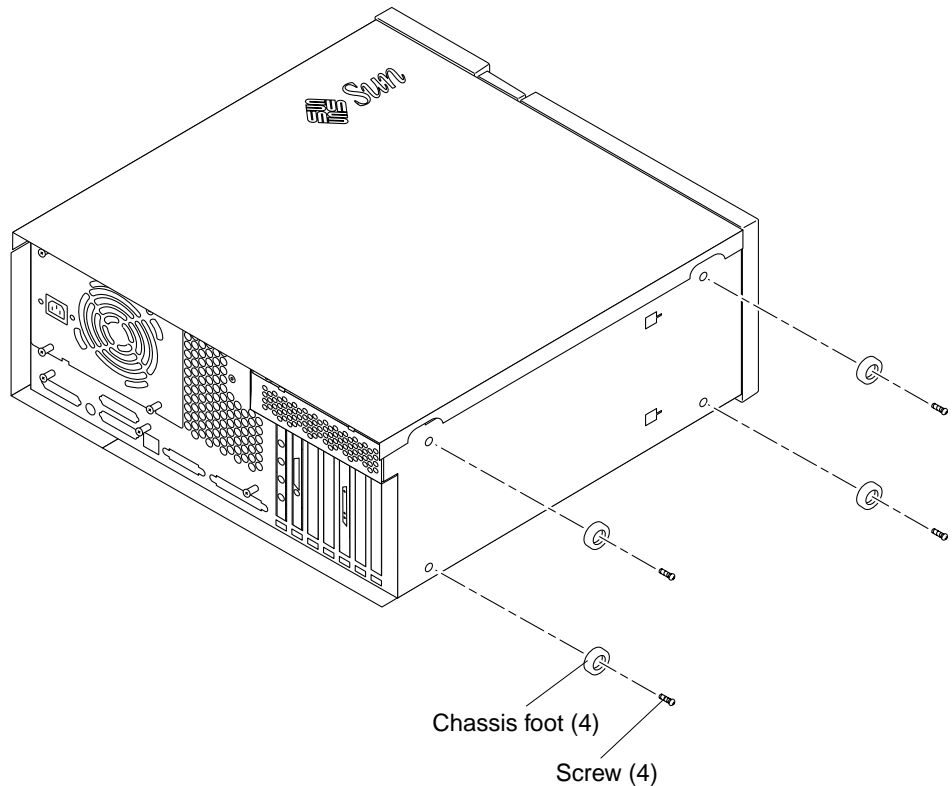

FIGURE 8-8 Removing and Replacing the Chassis Foot
3. Using a number 2 Phillips screwdriver, loosen the screw securing the chassis foot to the chassis (FIGURE 8-8).
1. Position the chassis foot (FIGURE 8-8).